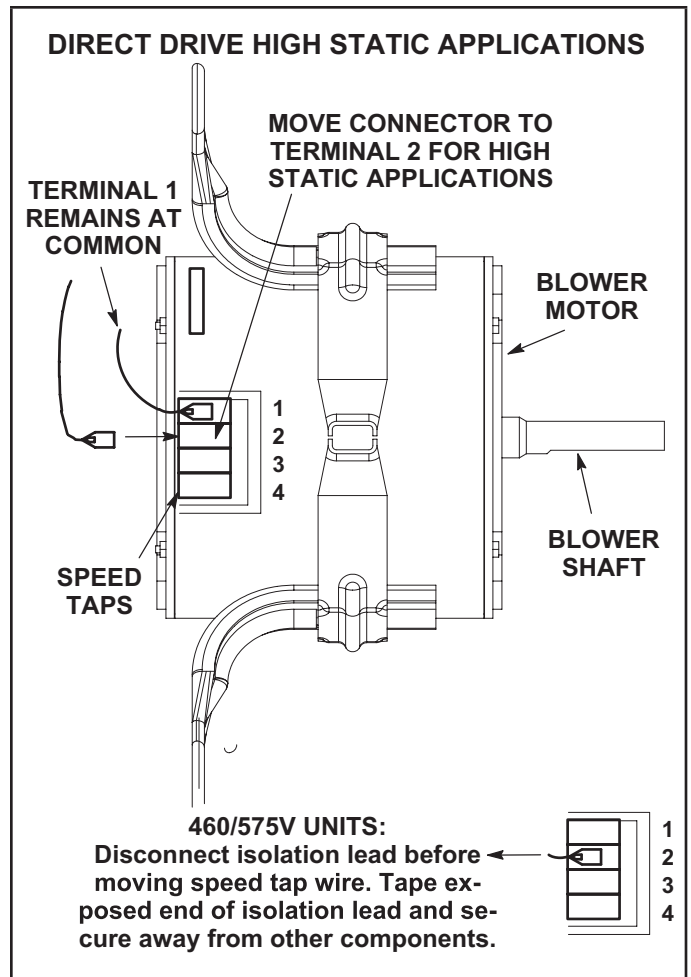

FIGURE 8
- Use the blower tables (see table of contents), measured static pressure and the factory-set blower speed to determine CFM. If CFM is lower than the design specified CFM, move the lead from speed tap 3 or 4 to speed tap 2. FIGURE 8.
Note - Speed tap 3 can be used on 036 units if speed tap 2 delivers more CFM than required by design specification. For 460/575V units, remove the isolation lead from speed tap 2 before moving the wire to speed tap 2. Tape the exposed end of the isolation lead and secure away from other components. See FIGURE 8.